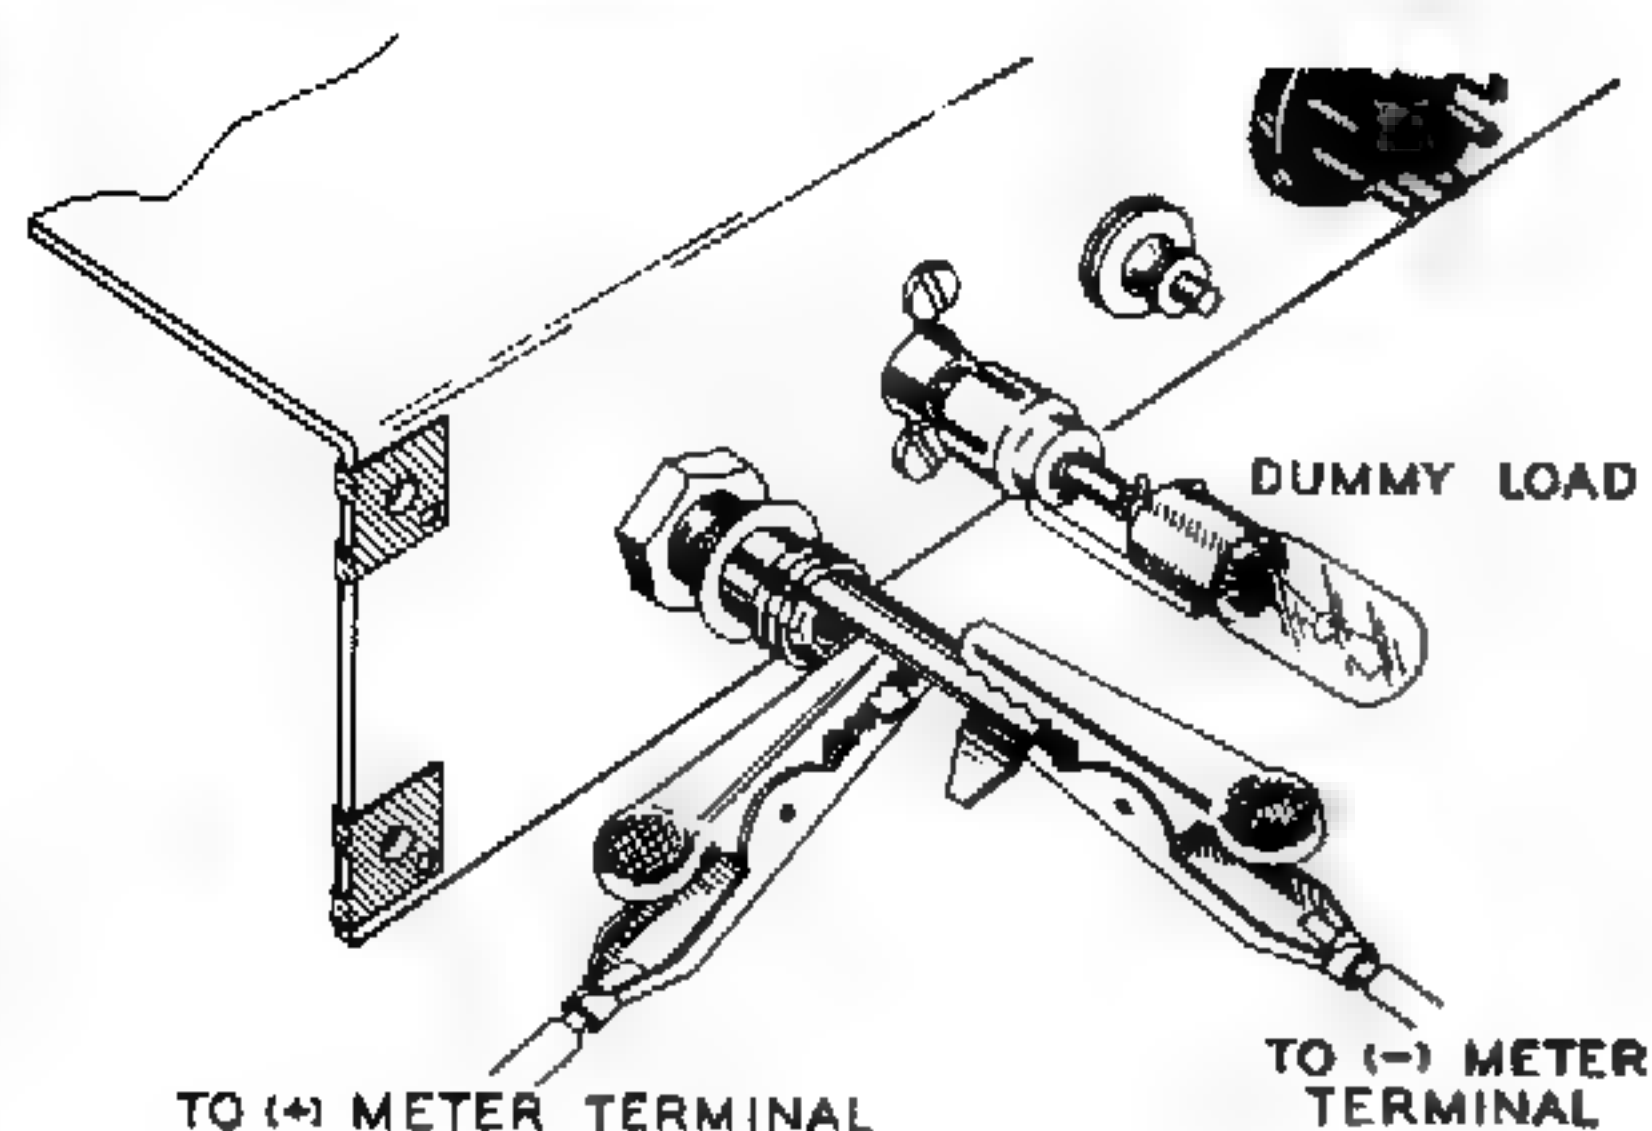
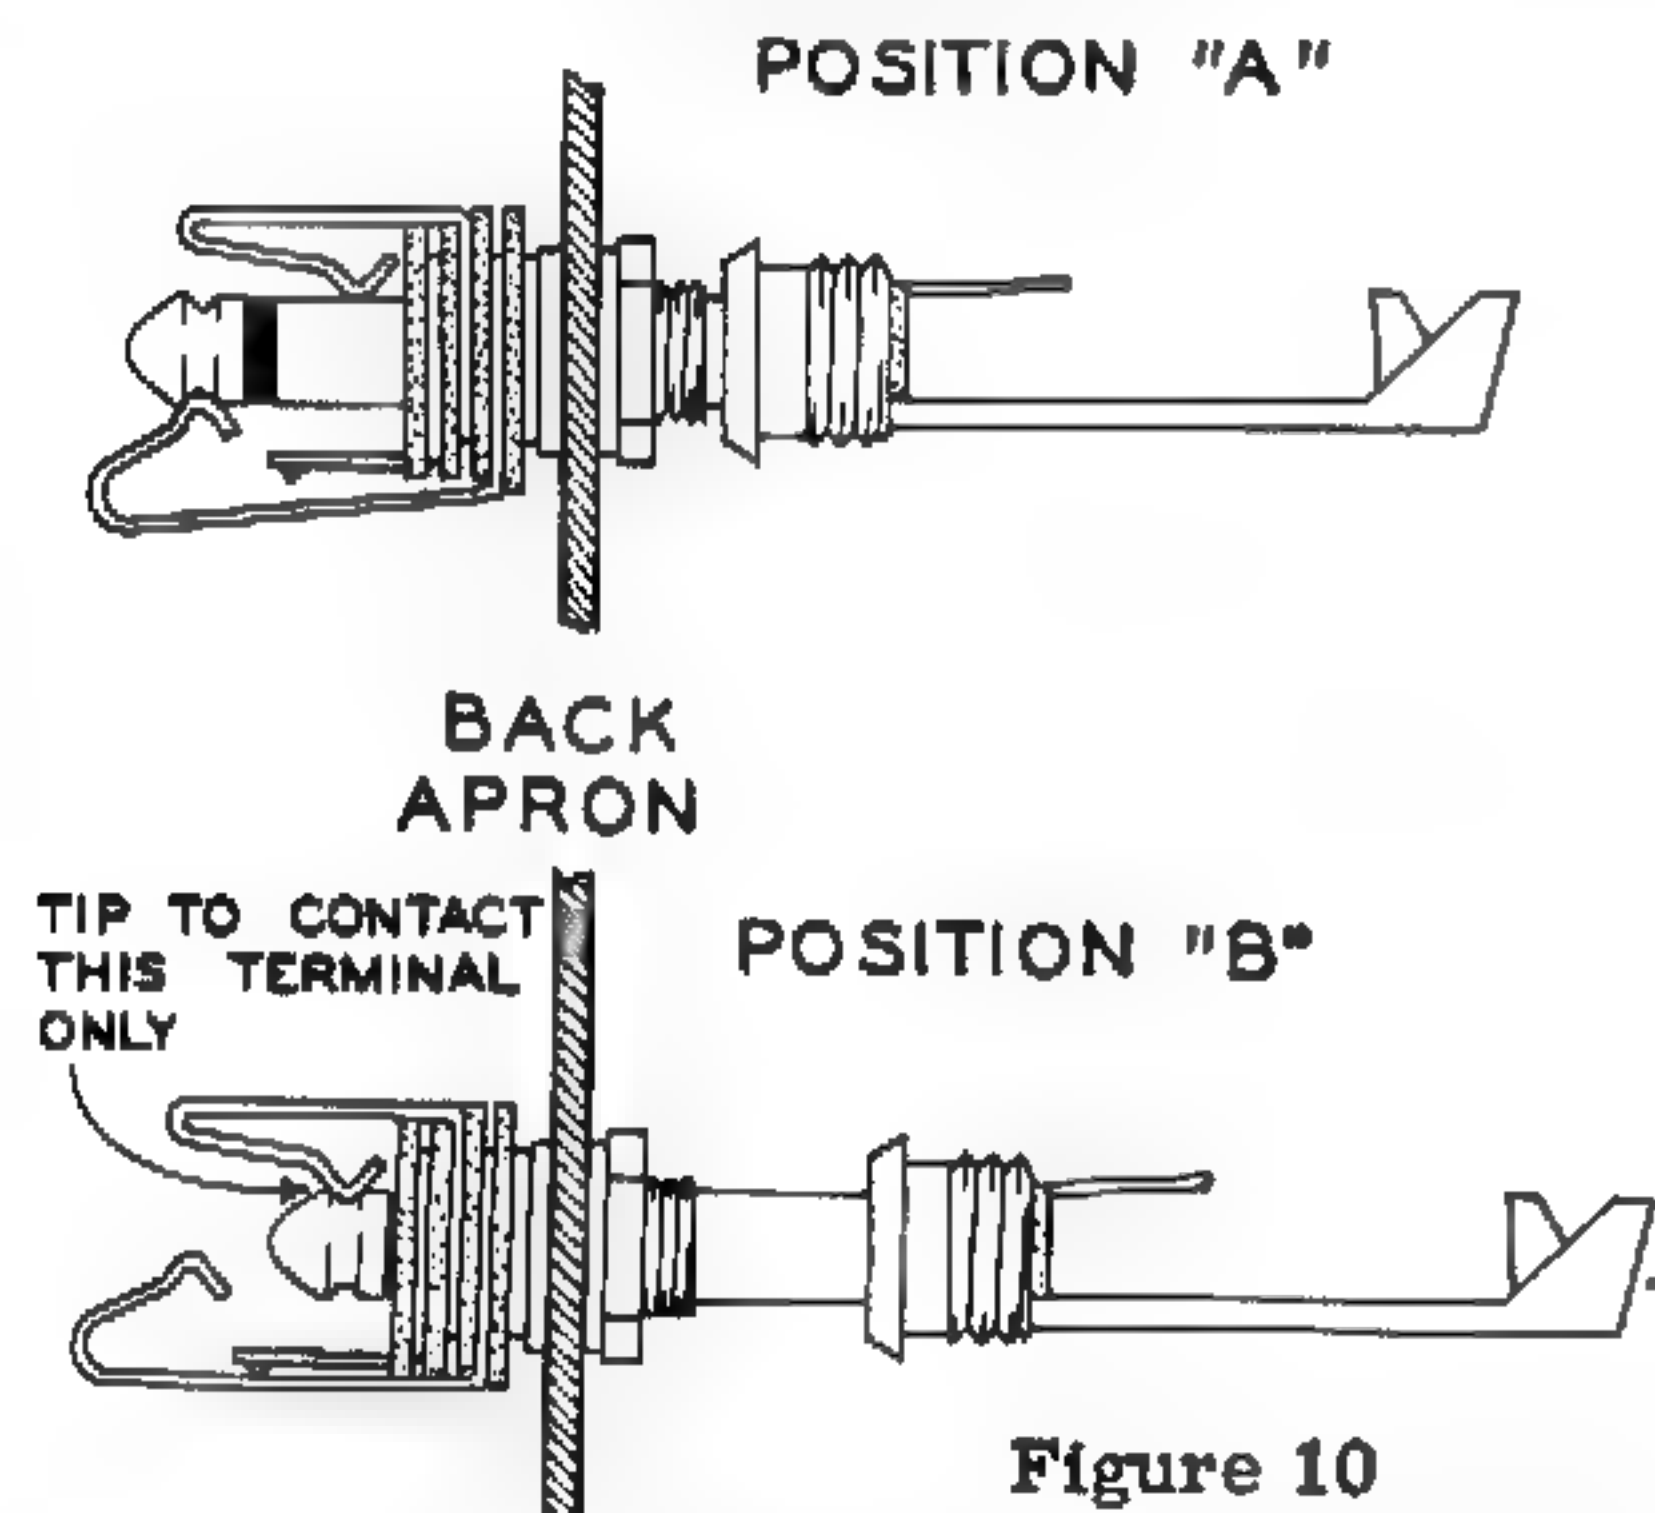

Figure 9
Figure 10
- ( ) Connect a 0-50 V meter to the meter plug as shown in Figure 9. Place the meter plug in position B, as shown in Figure 10. For best results, a 20,000 ohms-per-volt-meter is recommended.